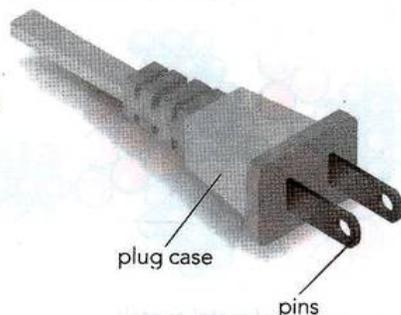

Figure 14.16: An electric plug.
- 7 a The wiring and connections involved in a domestic electric circuit must be very safe. Figure 14.16 shows the structure of a simple domestic electric plug.
- Which of these materials are most suitable to make the case and pins of the electric plug (Figure 14.16)? Choose one of the alternatives A–D: